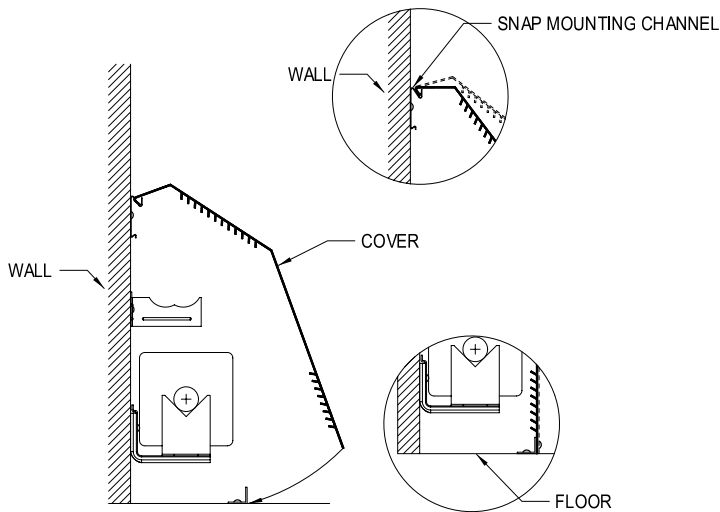

FIGURE V-5
- (5) Install floor angle to floor using suitable fasteners. For 3-15/16" deep enclosure, the floor angle must be mounted 3-7/8" from the base at the wall. For 5-3/8" deep enclosure, the floor angle must be mounted 5-5/16" away from the base of the wall. (FIGURE V-5)